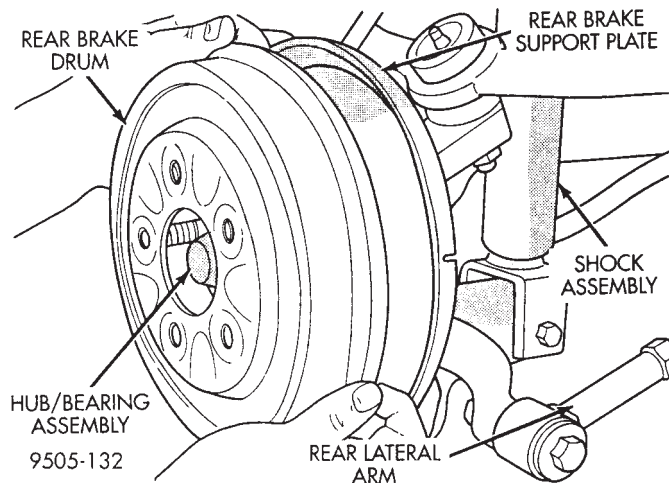

**Fig. 78 Rear Brake Drum**
(1) Raise vehicle on jackstands or centered on a frame contact type hoist. See Hoisting in the Lubrication and Maintenance section of this manual for the required lifting procedure to be used for this vehicle.
(2) Remove rear wheel and tire assembly.
(3) If installed, remove brake drum retaining clips from wheel studs and discard.
(4) Remove the brake drum (Fig. 78) from the rear hub/bearing assembly.
(3) Install the rear brake drum (Fig. 78) on the hub/bearing assembly.
(4) Install rear wheel and tire assembly on vehicle. Tighten all wheel stud nuts in criss cross pattern to one-half the specified torque. Then repeat pattern, fully tightening the stud nuts to a torque of 129 N·m (95 ft. lbs.).
(5) Lower vehicle.